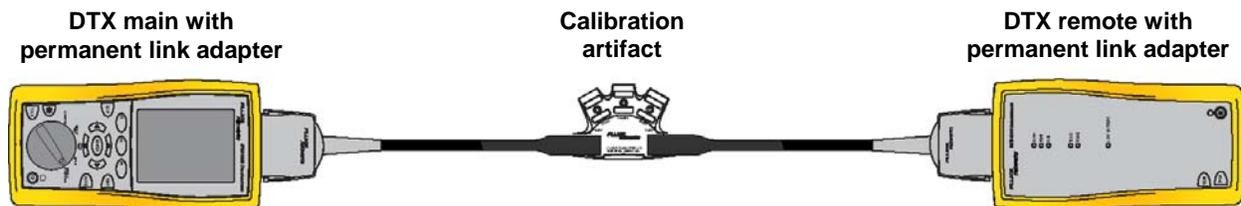

Figure 10. DTX-PLA001S Permanent Link Adapter Self Test
3. Connect both Permanent Link Adapters to the “through” connection in the DSP-PLCAL artifact as shown in Figure 10.